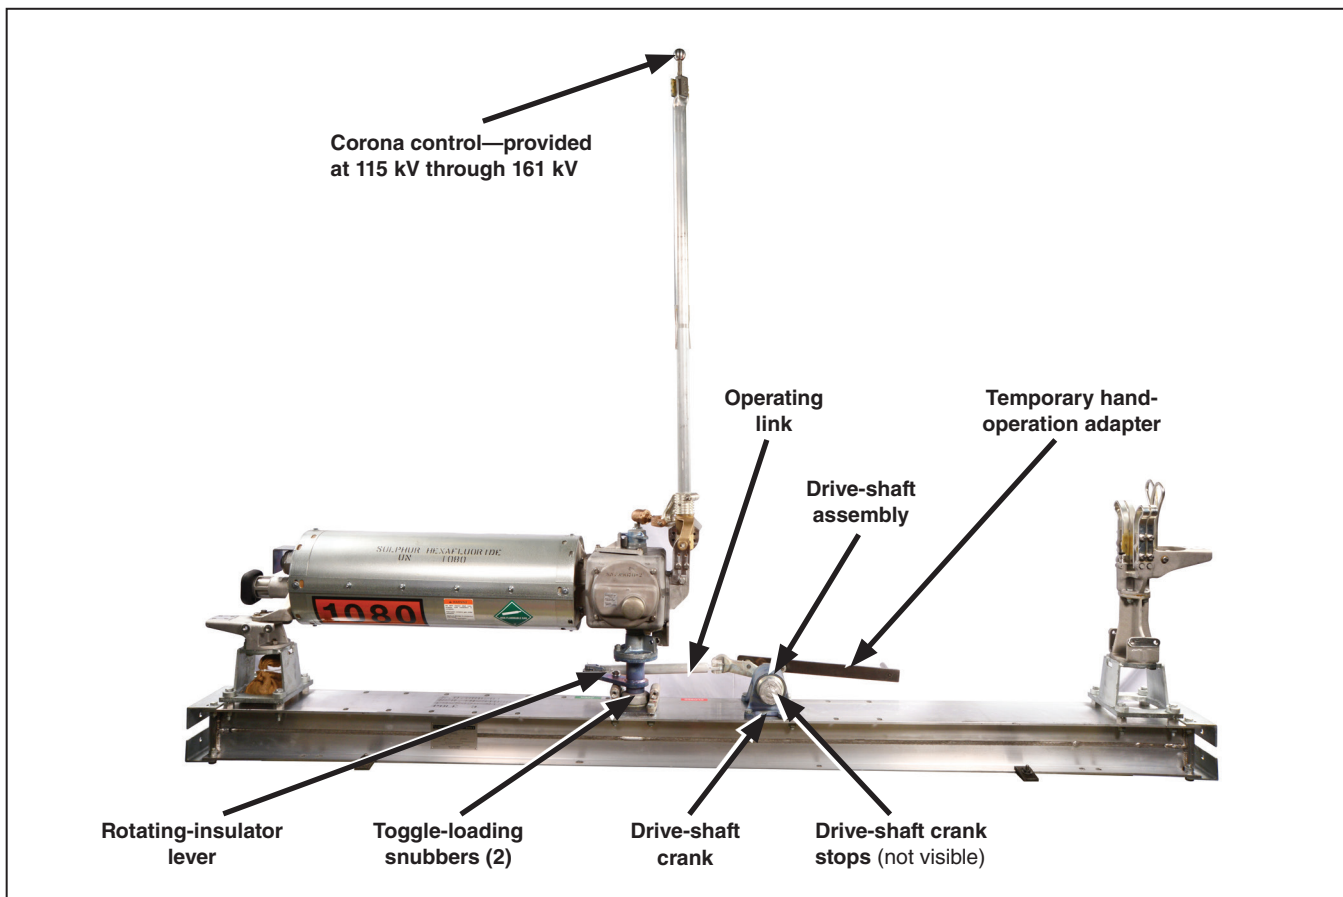
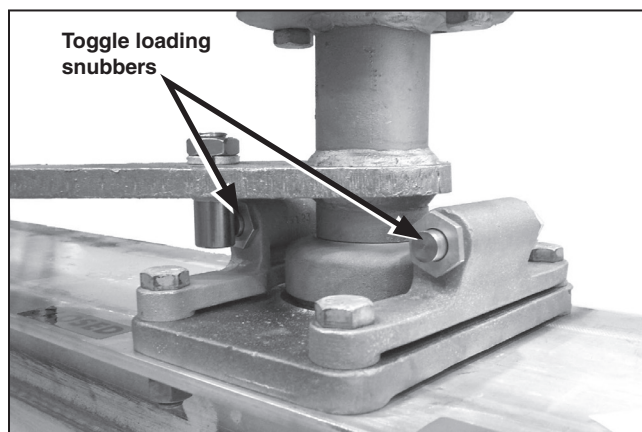

Figure 4. Overview of parts of Mark V Circuit-Switcher pole-unit and attaching the temporary hand-operation adapter.
Figure 14. Toggle loading snubbers, closed position.
STEP 2. Attach the temporary hand-operation adapter, to the drive-shaft crank. See Figure 4 on page 10.
firmly against an internal drive-shaft crank stop (not visible) in the drive-shaft assembly. See Figure 4 on page 10. The toggle-loading snubbers, located on the pole-unit base adjacent to the rotating-insulator support, (See Figure 14 on page 19) maintain positive-toggle locking at each end of the operating stroke. Both the internal drive-shaft crank stops in the drive-shaft assembly and the toggle-loading snubbers have been carefully adjusted at the factory and readjustment should not be attempted.
STEP 2. With the hand-operation adapter, operate each circuit-switcher pole-unit to its fully **Open** position. The drive-shaft crank, as it goes into toggle, should be felt to strike firmly against an internal drive-shaft crank stop (not visible) in the drive-shaft assembly. The toggle-loading snubber (located on the pole-unit base adjacent to the rotating-insulator support, see Figure 14 on page 19) should maintain positive-toggle locking. Both the internal drive-shaft crank stops in the drive-shaft assembly and the toggle-loading snubbers have been carefully adjusted at the factory, and readjustment should not be attempted.